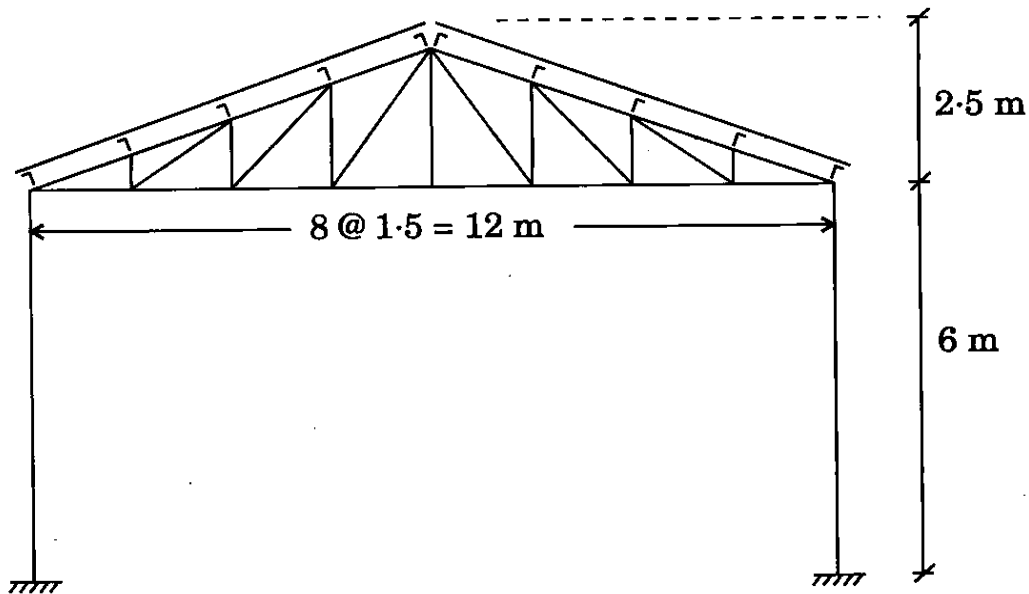

Figure 13
- (b) A factory shed is to be constructed using truss having a span of 12 m. The spacing of the truss is 4 m. Galvanised iron sheets are to be placed over purlins located at the nodes as shown in Figure 13. Determine the design load at the nodes due to live load and wind load for an intermediate truss. Assume design wind pressure = 1500 N/m2.  $C_{pe} = -0.7$  (for wind angle 90°),  $C_{pi} = \pm 0.2$ . Loads are to be shown in the diagram separately. 20